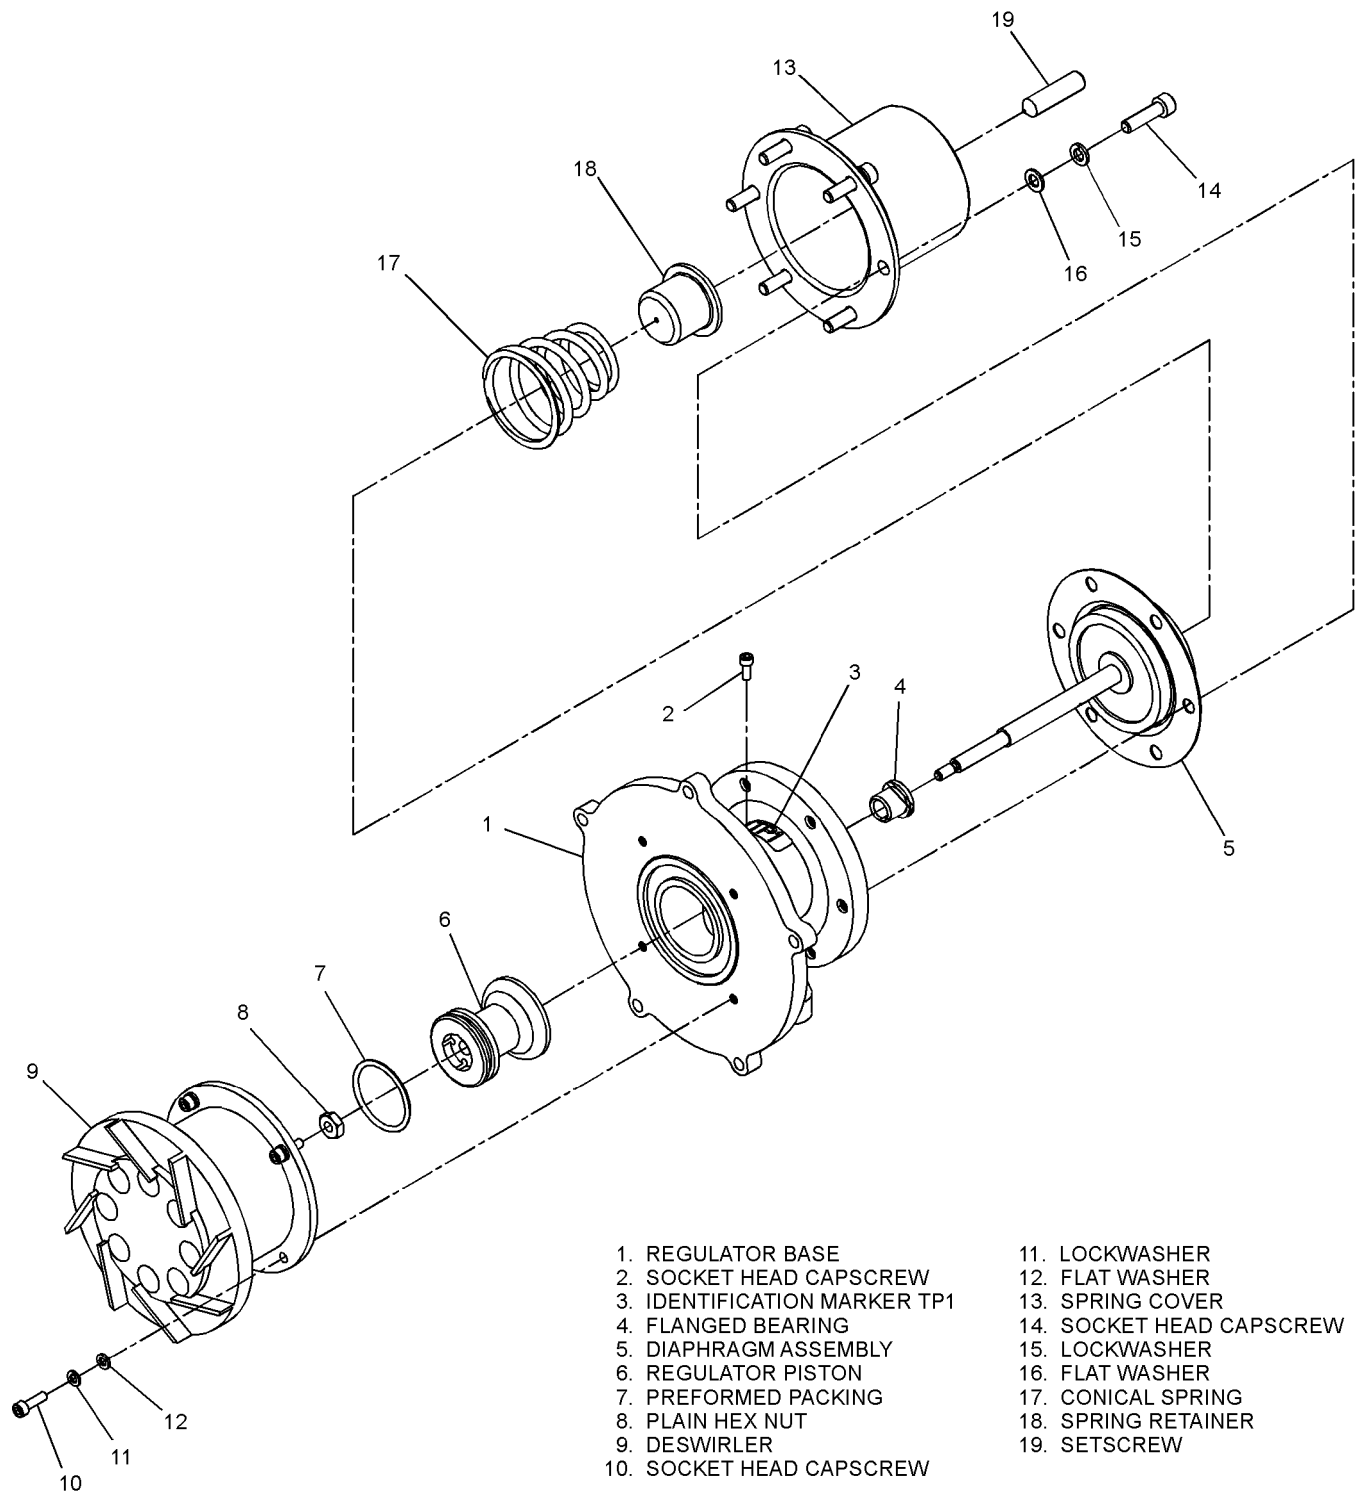
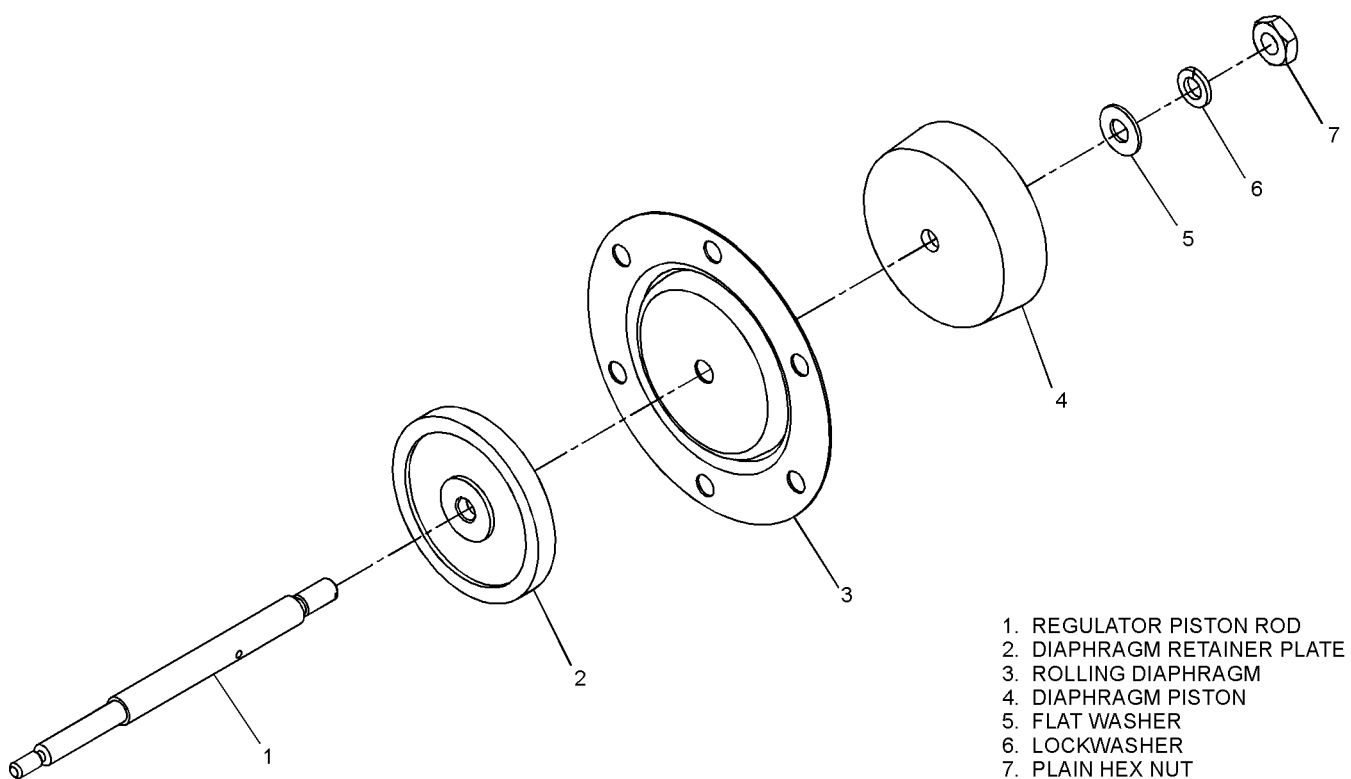

Figure 9-16. Reducer Assembly, P/N 1653696-1 Removal/Assembly
Figure 9-17. Regulator Diaphragm Assembly, P/N 1647152-1 Removal/Assembly
5. Remove four socket head cap screws (10, figure 9-16), lockwashers (11, figure 9-16), and flat washers (12, figure 9-16), the disassembled (9, figure 9-16) away from regulator base (1, figure 9-16).
6. Remove regulator piston (6, figure 9-16) and preformed packing (7, figure 9-16) by removing plain hex nut (8, figure 9-16) from the regulator piston rod (1, figure 9-17) of the diaphragm assembly (5, figure 9-16).
7. Remove spring cover (13, figure 9-16) with self screw (19, figure 9-16), spring retainer (18, figure 9-16), and spring (17, figure 9-16) by removing six socket head cap screws (14, figure 9-16), lockwashers (15, figure 9-16), and flat washers (16, figure 9-16) from the regulator base (1, figure 9-16).
8. Remove the diaphragm assembly (5, figure 9-16) with flange bearing (4, figure 9-16) from the regulator base (1, figure 9-16) by sliding the regulator piston rod (1, figure 9-17) of the diaphragm assembly (5, figure 9-16) from the regulator base.
9. Disassemble the diaphragm assembly (5, figure 9-16) by removing the plain hex nut (7, figure 9-17), lockwasher (6, figure 9-17), and flat washer (5, figure 9-17) from the regulator piston rod (1, figure 9-17).
10. Remove the regulator piston rod (1, figure 9-17) from diaphragm piston (4, figure 9-17), rolling diaphragm (3, figure 9-17), and diaphragm retainer plate (2, figure 9-17).